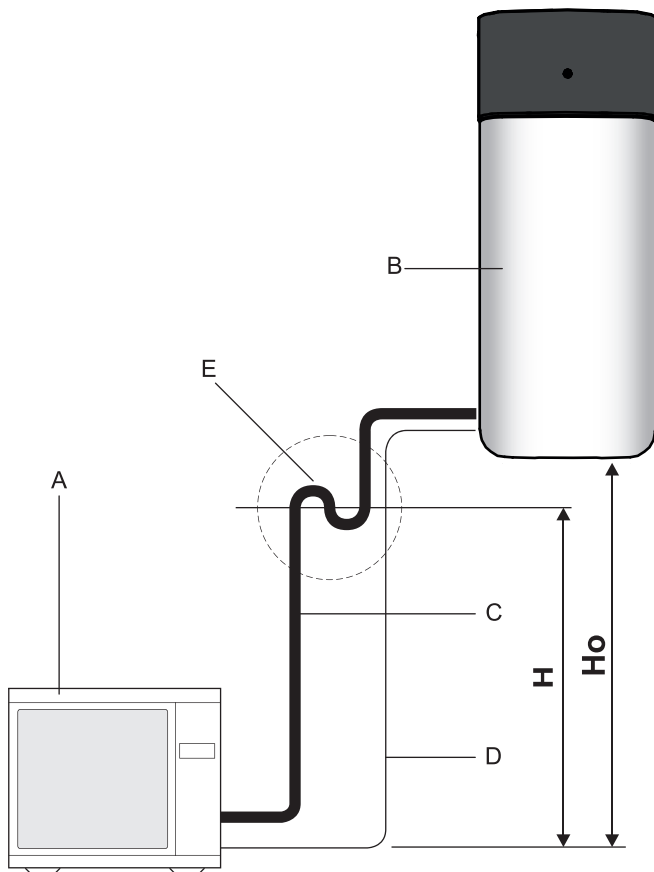

Fig. 4-46 Oil trap bend for refrigerant line
- Required if Daikin Altherma EHS(X/H) is not installed at ground level to the external heat pump unit (Fig. 4-46, HO ≥ 10 m).
- At least one oil trap bend must be installed for every 10 m of height difference (Fig. 4-46, H = distance from oil trap bend to oil trap bend).
Tab. 4-9 Legend for Fig. 4-46